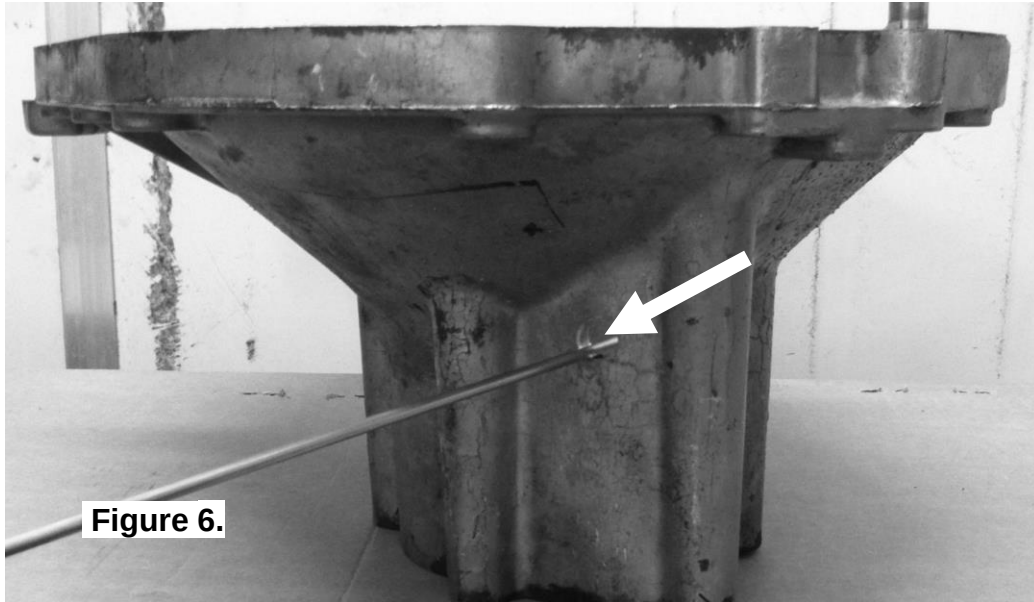

Figure 6.
- ☐ Drill through the housing square to the outside surface using a 11.2mm [7/16"] drill in the position shown in Figure 6.
- ☐ Assemble the seal housing retaining bracket onto the short spigot of the seal housing, so that it will be held captive between the flange cap and seal housing (as shown in Fig. 6).